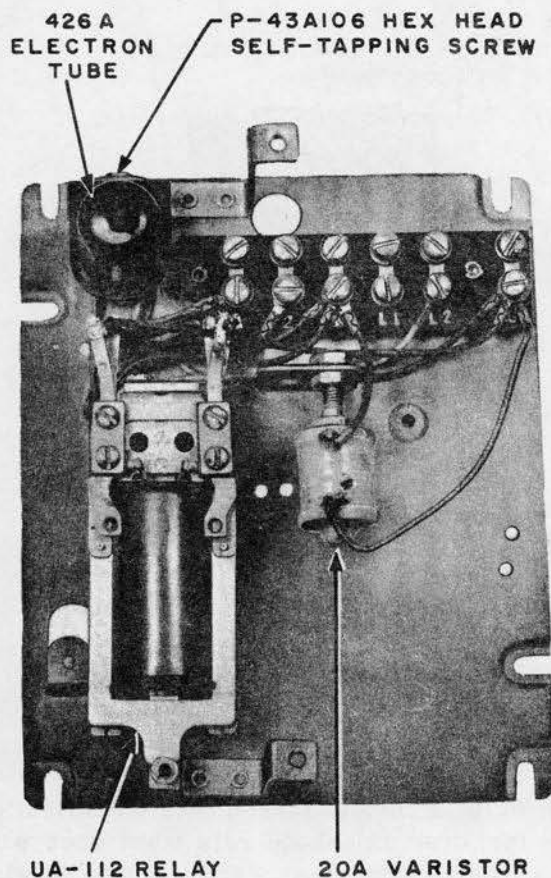

Fig. 9 — 687B Subscriber Set, Internal View
- (b) 687B: Provides auxiliary signal facilities for 4-party selective and 8-party semi-selective services (Fig. 9).